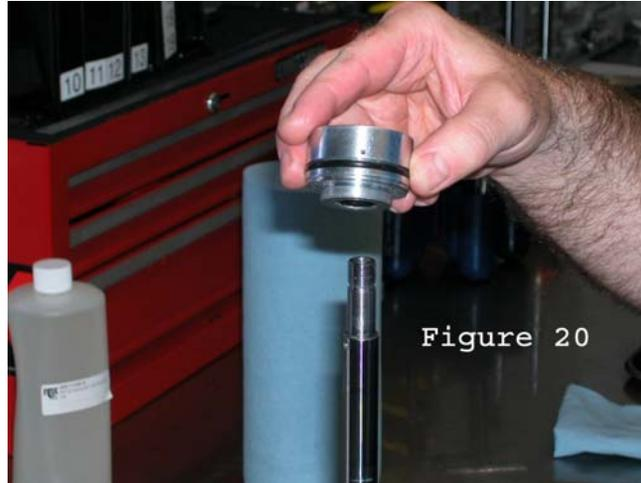

Figure 20
46. Slide bearing assembly off of shaft. Use extreme caution not to scratch inside of the bearing assembly when passing it over the threads at end of shaft. **(Fig. 20)**